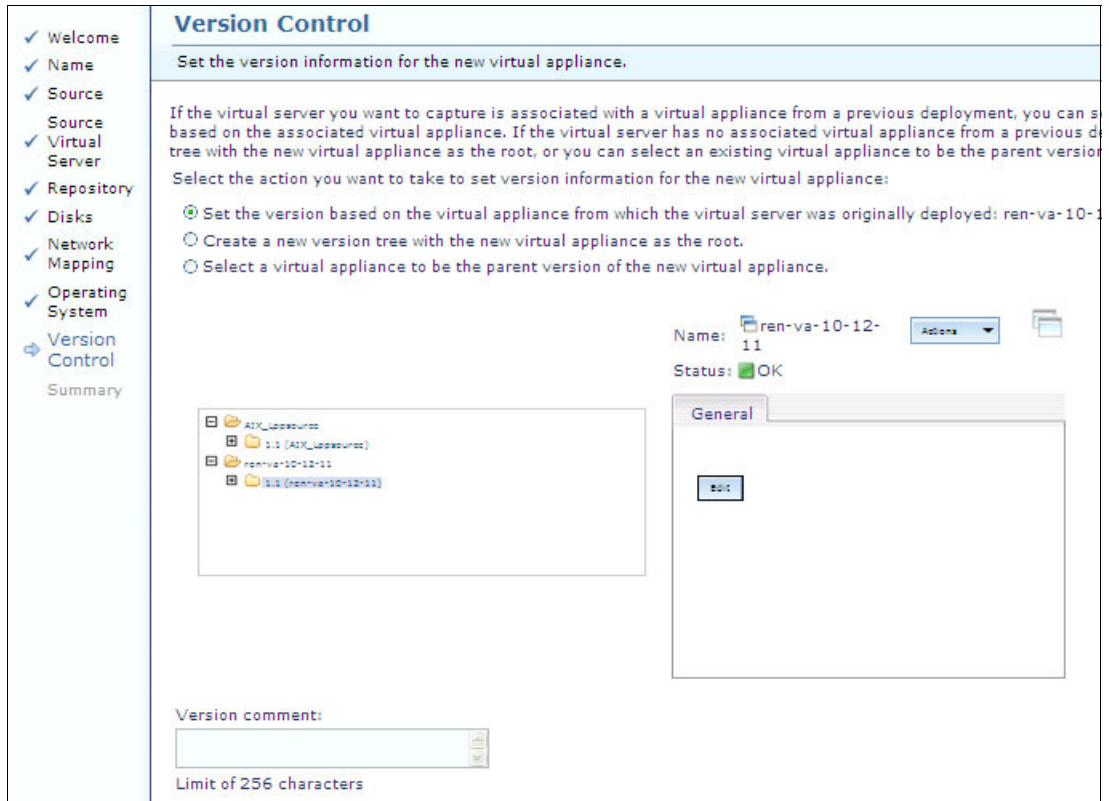

Figure 9-149 Version Control window
10. Select the version control type for your future virtual appliance as shown in Figure 9-149, then click **Next**.